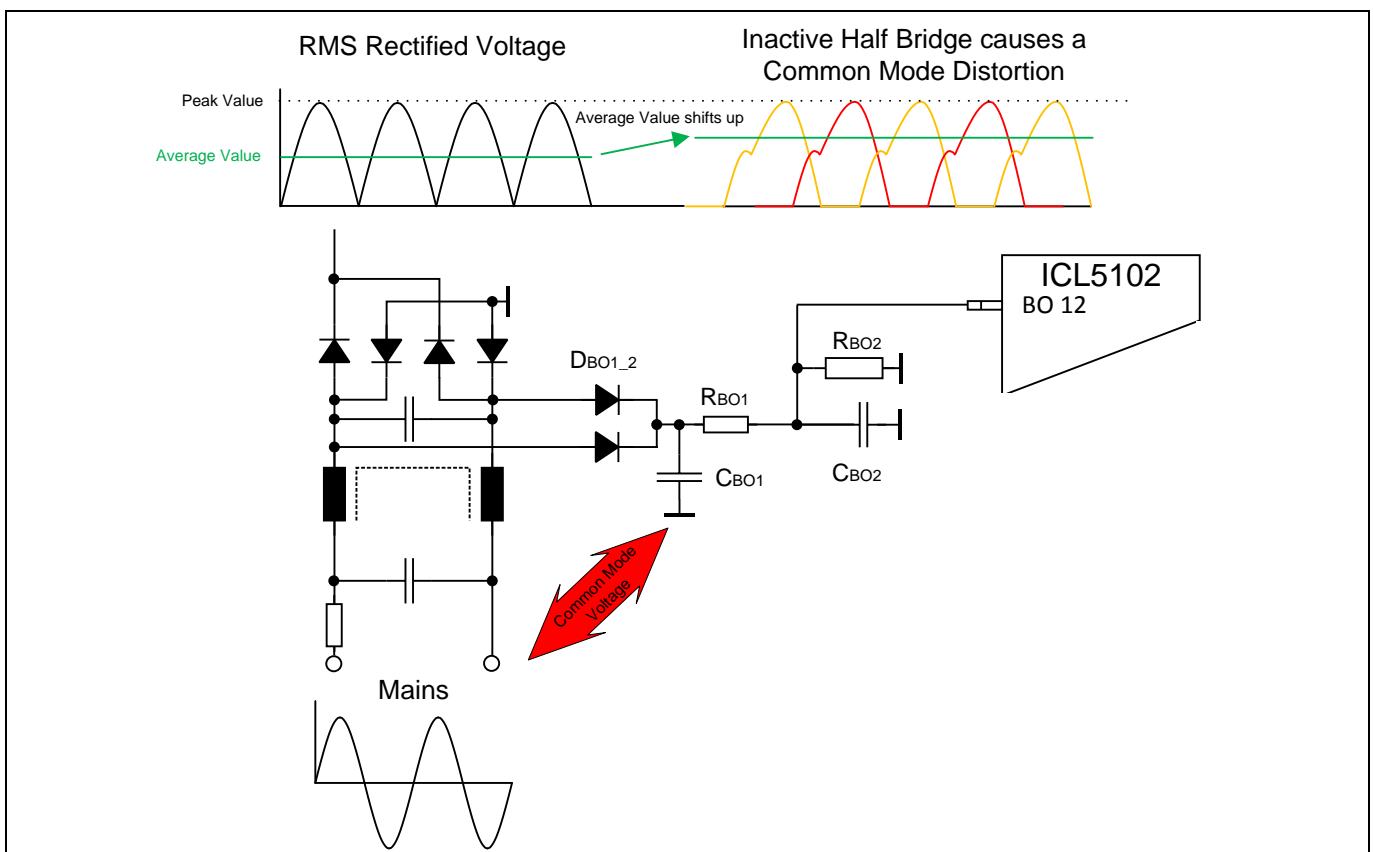

Figure 11 Impact of conducting vs non-conducting (distortion)
The BO detection function of the ICL5102 is based on a DC voltage on pin 12 (BO) that represents the average value of the rectified mains voltage, see Figure 11.
The level at the BO pin becomes incorrect when the half-bridge is not running, at start-up or in RUN mode when a protection shuts off e.g. BO. In both cases, the input diode bridge is not conducting. This causes a Common Mode (CM) voltage from mains to power GND, see the red arrow in Figure 11. It results in a shifting up of the average value of the RMS rectified voltage, see “Common mode distortion” in Figure 11. Note: The peak value stays the same. In order to compensate for this effect place a film capacitor  $C_{BO\_1}$  from  $R_{BO\_1}$  (as shown in Figure 11) to power GND.